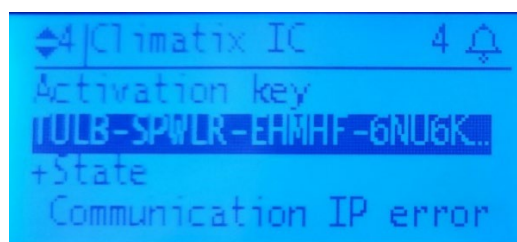

Figure no. 22
11. Write down or take a photo of the last 5 to 10 symbols of **Activation key** (you might need it later). (see figure no. 22)